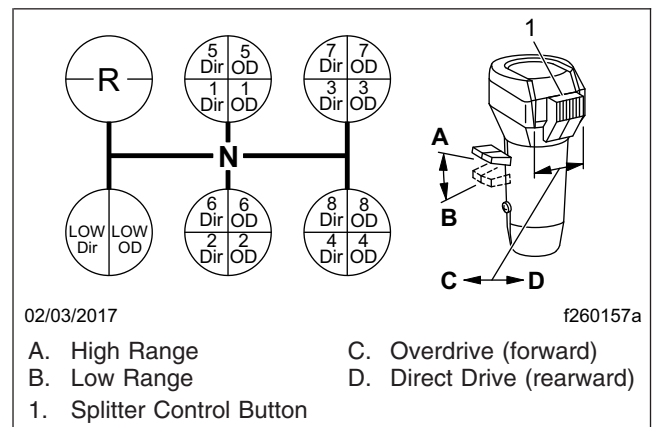

Fig. 13.2, Eaton Fuller 18-Speed Transmission Shift Pattern
2. Position the range-preselection lever down, in low range. See Fig. 13.2.
3. Make sure the splitter-control button is in the low (rearward) position. See Fig. 13.2.
Upshift from LOW overdrive to 1st direct by first moving the splitter-control button into the direct drive (rearward) position (**Fig. 13.2**). Double-clutch and move the shift knob through neutral to the 1st gear position.